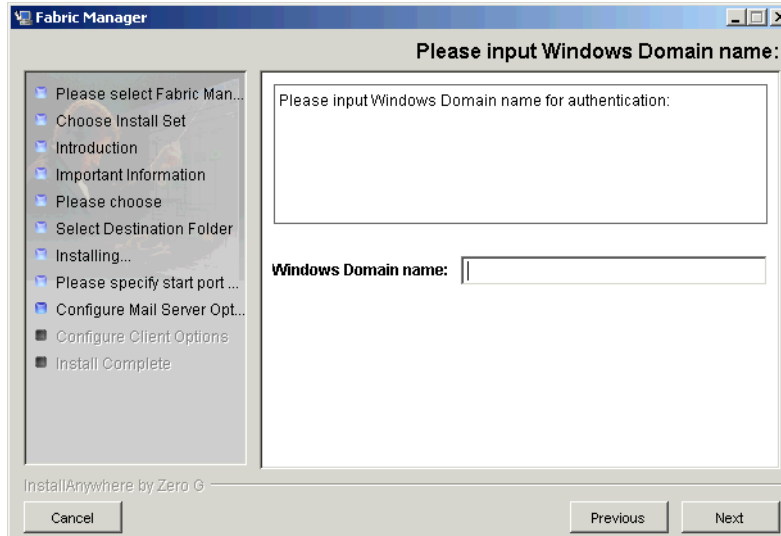

Figure 1-169 Domain name entry
11. The next window, shown in Figure 1-169, asks for the Windows Domain Name. This is important, as Fabric Manager authenticates logins with the controller specified by this Domain. That is, the windows domain login is used when logging into the Fabric Manager application.